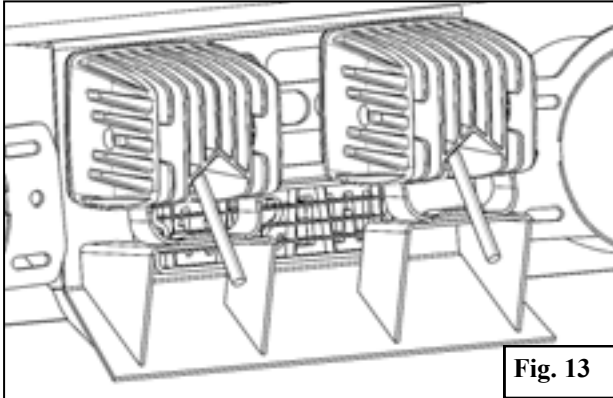

Fig. 13
- This bumper supports the mounting of 2 3" auxiliary LED cubes using the M8 hardware included with the lights, **Figure 13**.